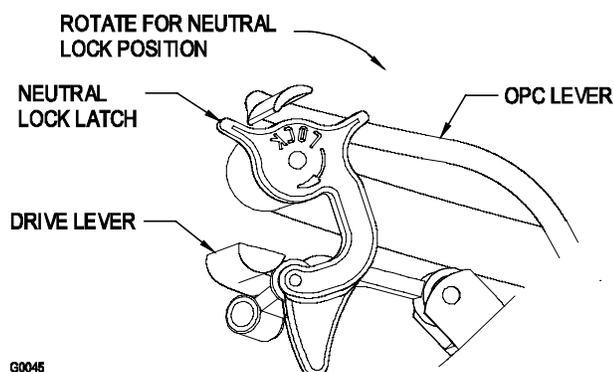

FIGURE 3
4.1.1 Operator Presence Control (OPC) Levers: Located on the upper handle assembly directly above the handle grips. See Figure 3. **When these levers are depressed, the OPC system senses that the operator is in the normal operator's position. When the levers are released, the OPC system senses that the operator has moved from the normal operating position and will kill the engine if either the speed control lever is *not in the neutral* position or the *PTO is engaged*.**
4.1.2 Drive Levers: Located on each side of the upper handle assembly directly below the handle grips. See Figure 3. These levers individually control the speed and direction of each drive wheel. When the speed control lever is moved out of the neutral position and the neutral lock latches are moved into the drive position, as shown in Figure 3, and the drive levers are released, the drive wheels are engaged in the forward direction.
4.1.3 Neutral Lock Latches: Located at the end of the handles. These latches allow the operator to lock the drive levers in "neutral" where neither the drive wheels are engaged in either a forward or reverse direction. See Figure 3.